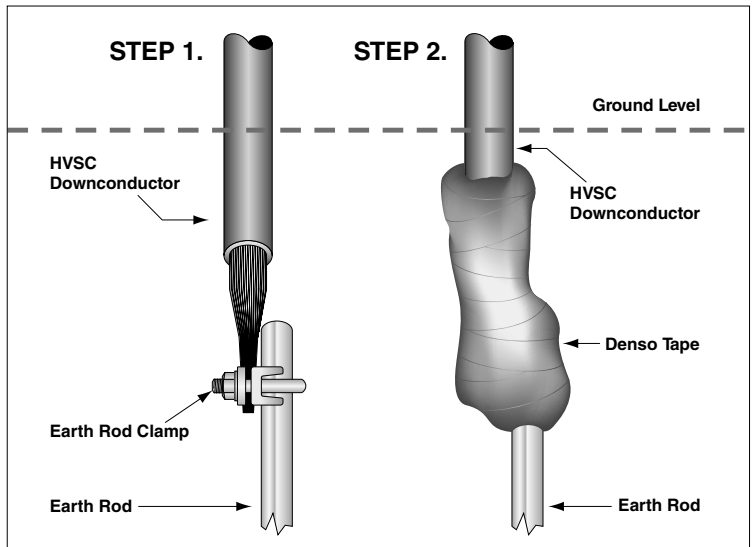

Figure 20
5. Bunch together both inner and outer screen conductors. If connecting directly to the earth system as per figure 20 then the bunched conductors should be connected to the earth rod clamp and the clamp tightened holding the conductors firmly in place. To avoid oxidation of this connection seal it using the water resistant (Denso Tape) as provided in the kit.